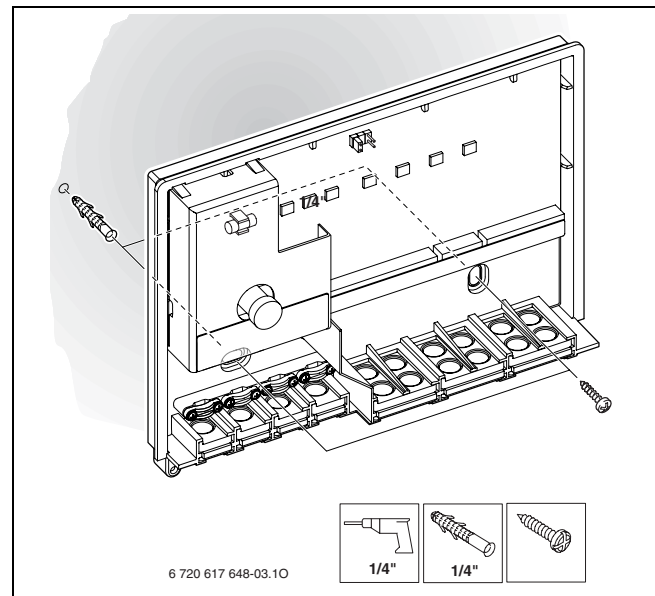

Fig. 8 Insert wall anchor
- ▶ Drill $\varnothing 1/4"$ (6 mm) holes and insert wall anchors (→ Fig. 8).